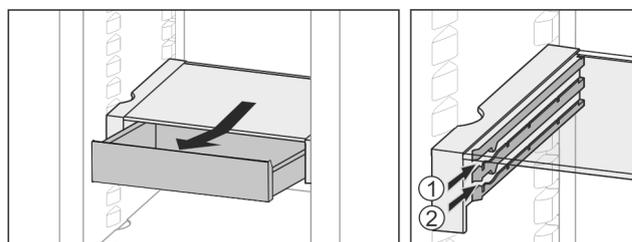

Fig. 26
- ▶ Slide back at the height you want Fig. 26 (1) or Fig. 26 (2).